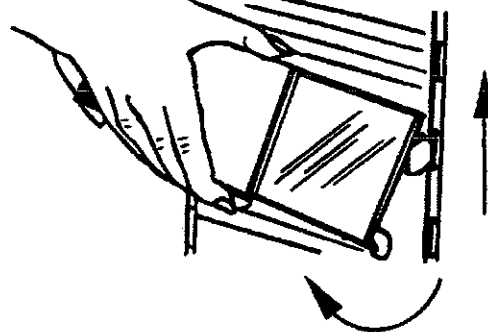

Figure 64
- To remove non-adjustable hook-style shelves, gently tap upward underneath both ends. Lift and rotate bottom of shelf outward to release hooks from door slots. See Figure 64.
- Hold shelf against door and tap down gently on both ends until shelf is seated securely. See Figure 64.